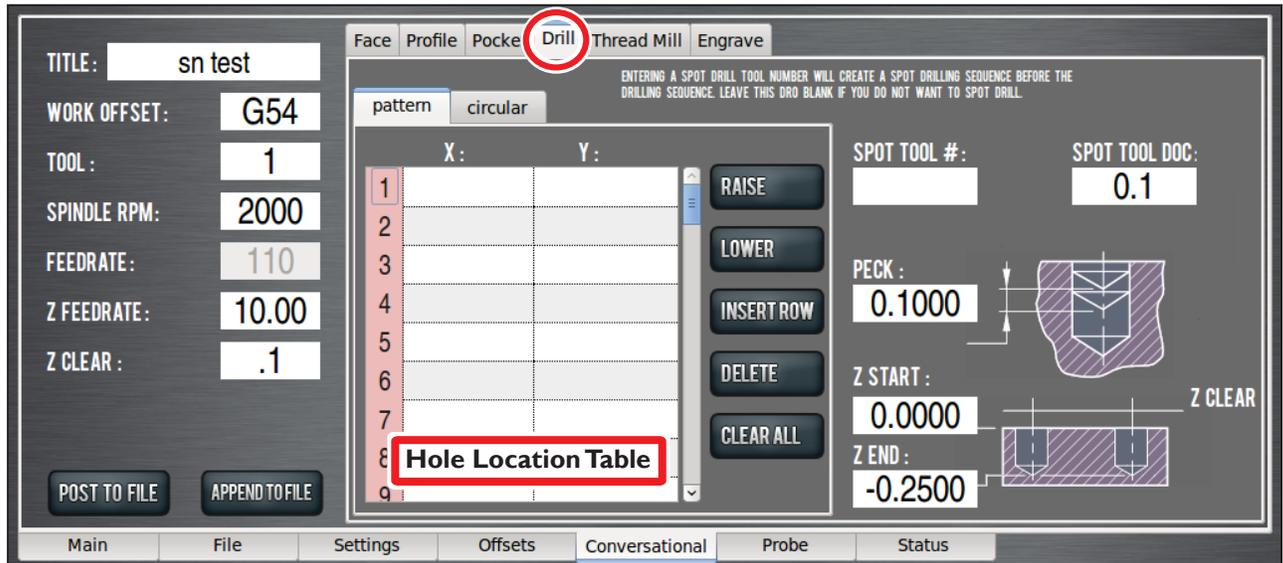

Figure 6.32
*Drill* provides a means to create a hole location list, then, based on DRO entries, configures an appropriate canned cycle G-code to create holes – either *Pattern* or *Circular* (see **Figure 6.32**).
**Hole Location Table** – Used for making a list of X and Y locations for each hole using the same tool, Z and common DRO entries (see **Figure 6.32**). To create holes using different tools or other parameters, post the first group, clear the table, enter the next group of locations and other parameters, then append the new list to the existing posted file.
**Drill** – Uses one of the canned G8x cycles to drill a hole at each location called out in the hole table (see **Figure 6.32**). The drill cycles available are: G81 Drill, G82 Drill with Dwell, and G83 Drill with Peck (features can not be combined, peck cancels dwell).